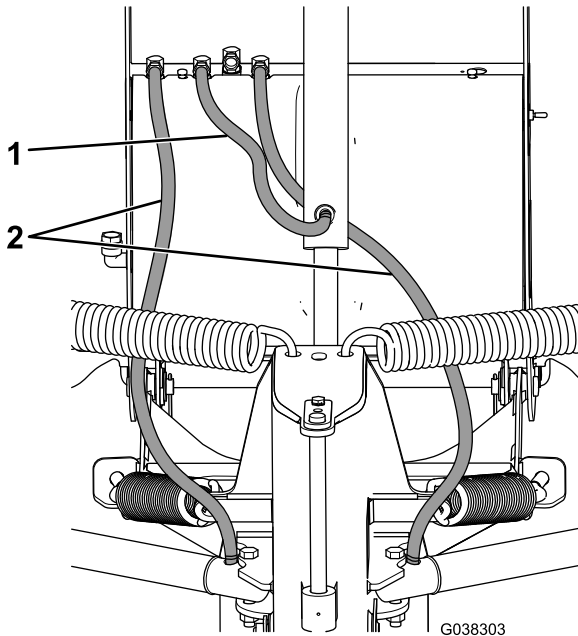

Figure 7
1. Install a swivel fitting to the lower port on the lift cylinder (Figure 7).
2. Install the 45 cm (18 inch) hydraulic hose to the middle fitting on the hydraulic shelf and the lower fitting on the lift cylinder (Figure 7). Turn the fitting until it is finger tight, then turn it 2 to 3 more times.
3. Install the O-ring end of the 106 cm (42 inch) hydraulic hose to the port on the right angle cylinder and the other end to the right fitting on the hydraulic shelf (Figure 7). Turn the fitting until it is finger tight, then turn it 2 to 3 more times.